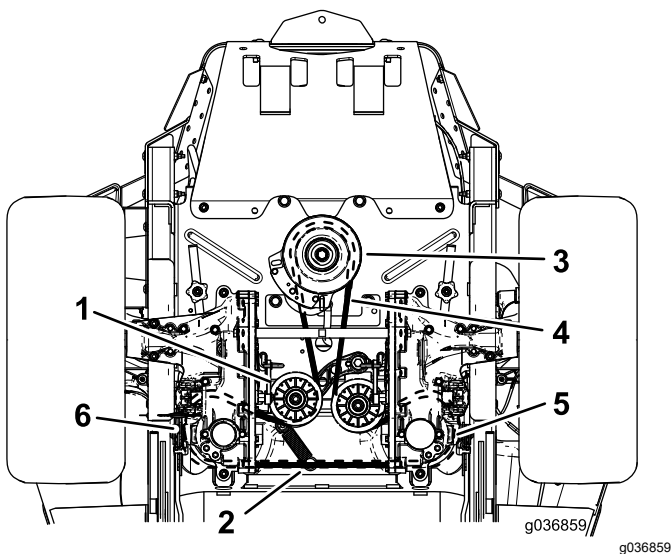

Figure 56
- Raise the machine and support it with jack stands (Figure 56).
- Remove the idler spring from the post (Figure 56).
- Install the new belt around the engine pulley and the 2 hydraulic-pump pulleys (Figure 56).